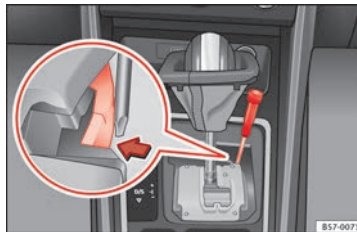

Fig. 58 Selector lever: manual release from position P.
- Using a screwdriver, press and hold the yellow unlocking tab sideways » **Fig. 58**.